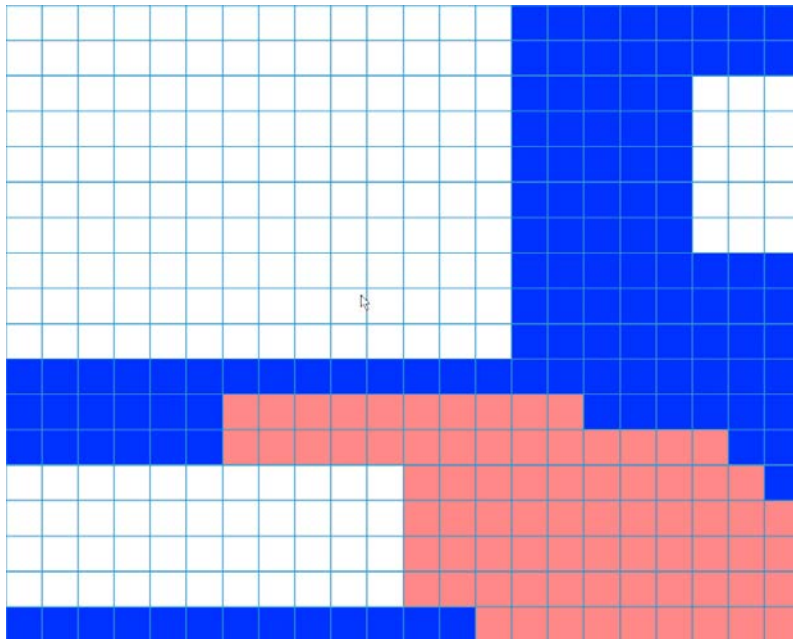

Figure 3-68
9. Select the **Test** button. A screen appears as in Figure 3-68. The system only displays the motion detect status of the blue area. The red flashing area shows motion has been detected in this area.